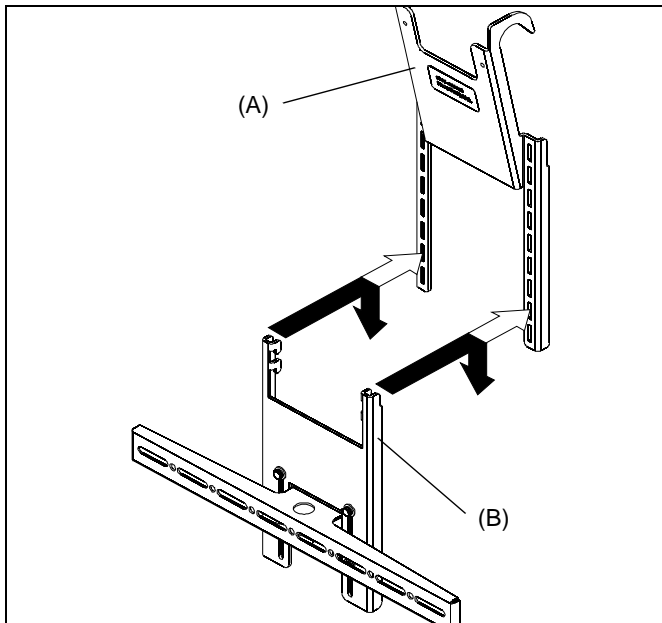

Figure 4
- Hang hook bracket (B) with attached speaker bracket onto the upper hook bracket (A). (See Figure 4)